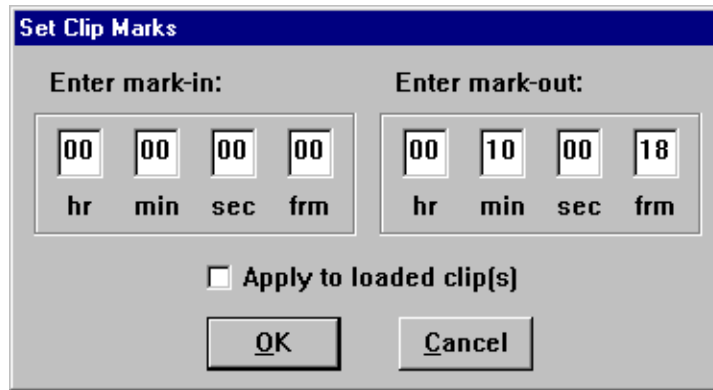

Figure 79. Set Clip Marks dialog box
2. Choose **Controller | Clip Length**. The Set Clip Marks dialog box appears (Figure 79).